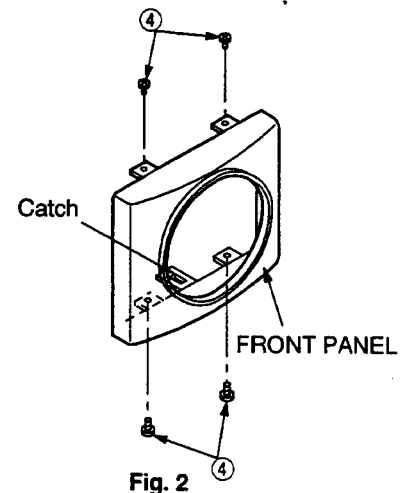

Fig. 2
- Remove the four screws (4) shown in Fig. 2.
- Remove the one Catch shown in Fig. 2.